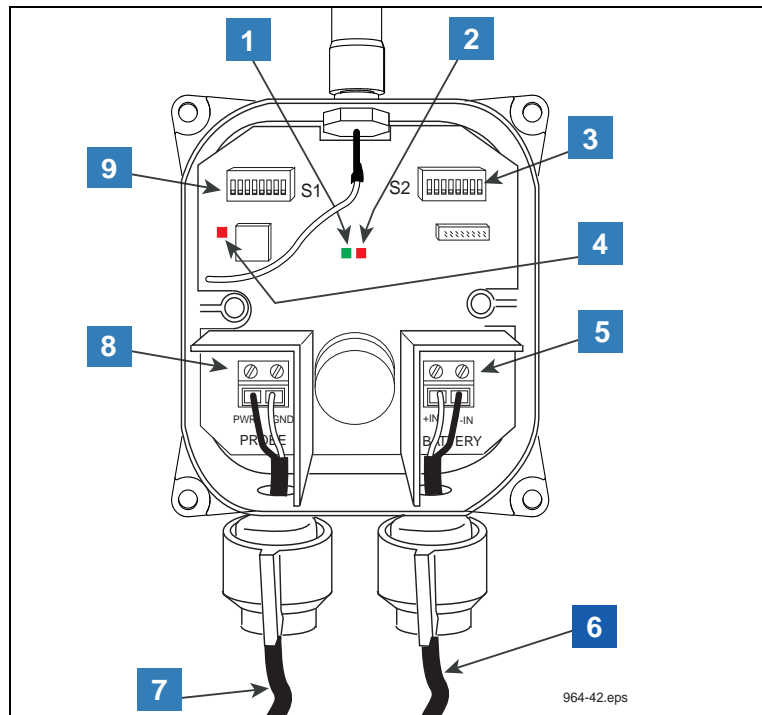

Figure 18. Wiring The Transmitter
5. All probe/sensor cables connect to the PROBE terminal block the SAME WAY - the white wire to the PWR terminal and the black wire to the GND terminal as shown in Figure 18.
8. Connect power cable wires to the BATTERY terminal block placing the white wire in the +IN terminal and the black wire in the -IN terminal as shown in Figure 18.
LEGEND FOR NUMBERED BOXES IN Figure 18